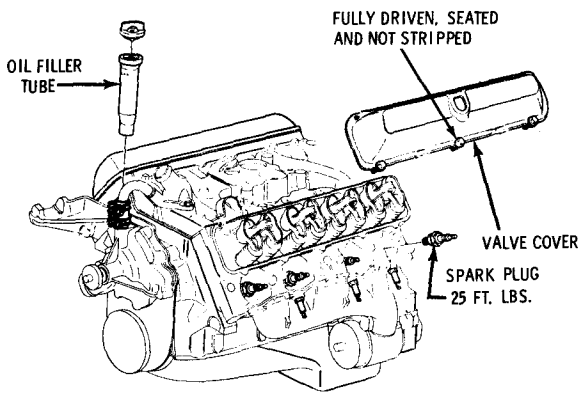

Figure 18—Valve Cover
5. Remove valve cover to cylinder head attaching screws as shown in figure 18.